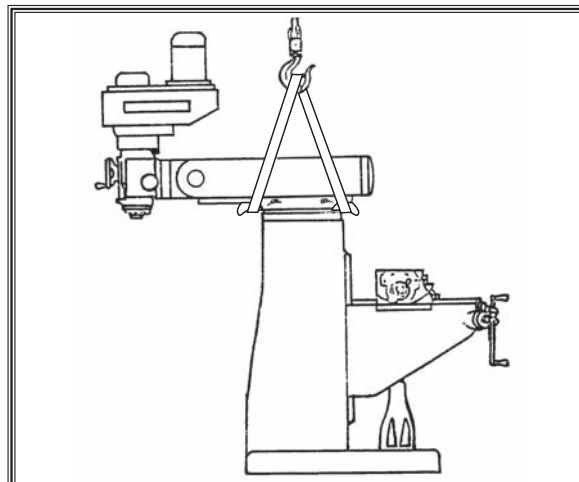

Figure 9: Lifting the mill with lifting strap.
1. Swivel the head 180°, as shown in **Figure 9** and lock it in place.
3. Place a lifting strap around the ram as shown in **Figure 9**. Place padding between the sling and the mill to protect the sliding surfaces.